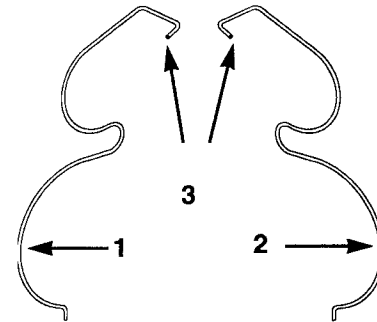

Figure 49
- A. Identify the left and right hold-down springs (Fig. 49).